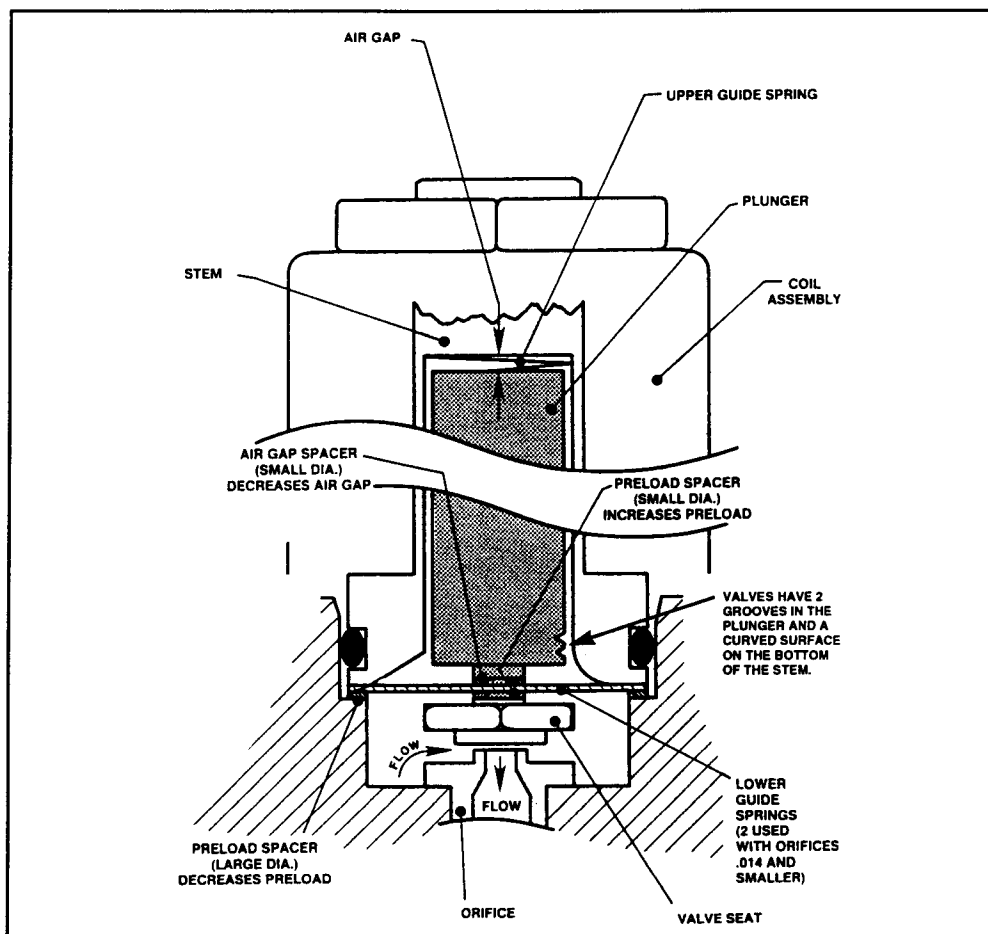

Figure 4-2. Valve Adjusting Spacer Locations
The valve is adjusted in the mass flow controller by adding spacers (9 and 10) to the control valve assembly to vary the air gap and initial preload. Spacers are used to affect the proper adjustment because they provide a reliable and repeatable means for adjustment. Screw type adjustment mechanisms can change with pressure or vibration and introduce an additional dynamic seal that is a potential leak site and source for contamination. Refer to Figure 4-2 for spacer locations.
- a. Remove the electronics cover (23) from the controller. Insure that the connector from the coil assembly (2) is properly reconnected to the PC Board after the electronics cover is removed.
- d. Decrease the preload of the valve by 0.005 inches by either removing a 0.005 inch small preload spacer or by adding a 0.005 inches large preload spacer. Refer to Figure 4-2.
- j2. If the flow controller output signal is 100% (5.0 V) and the valve voltage is greater than 11.5 V, decrease the air gap with a small 0.005 inch. air gap spacer. Refer to Figure 4-2. Repeat steps h and i.